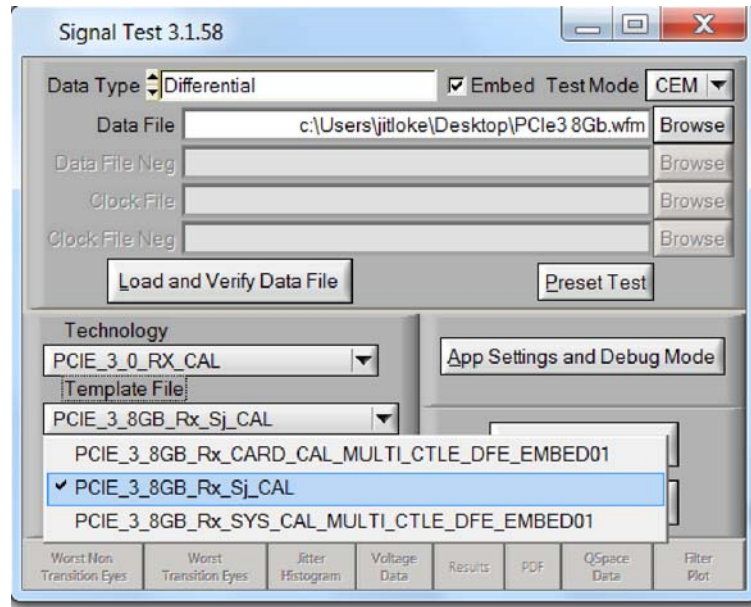

Figure 45: SIG Test Screen
- Set** the maximum sample rate of 50 GS/s and the record length of 10 M points (see Figure 45). Select Horiz/Acq → Horizontal/Acquisition Setup → Horizontal → Average